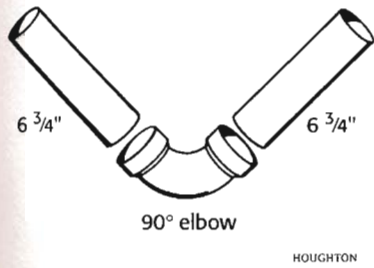

Figure 10. Upper brace
b. Using two 6 3/4-inch connectors and one 90° elbow, assemble the upper brace (as shown in figure 10).